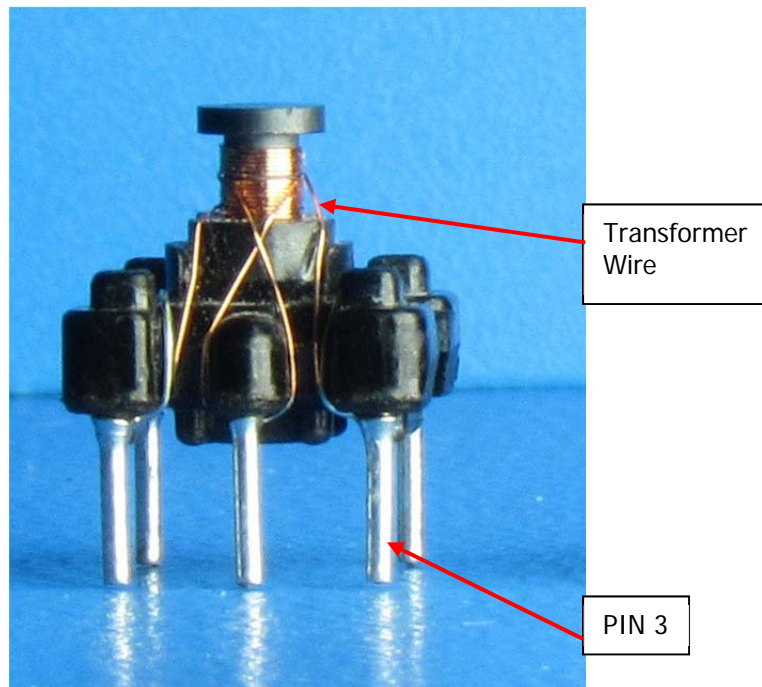

Figure 2
- iv. Unsolder transformer wire from Pin 3 shown in Figure 2.